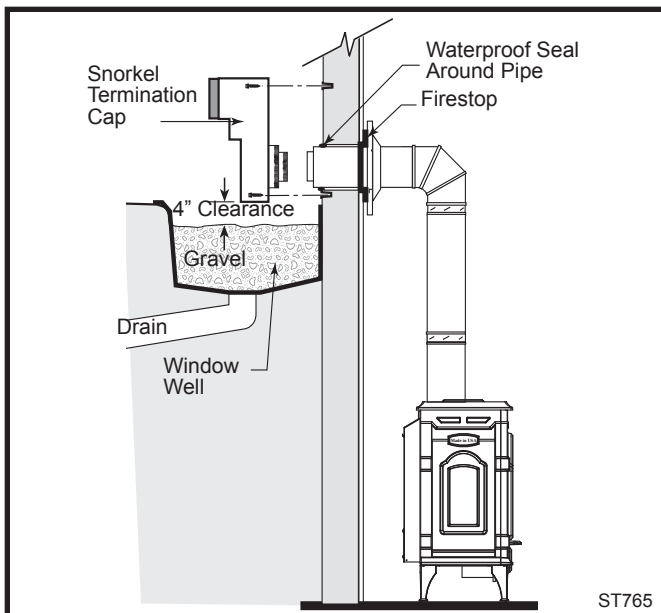

Fig. 28 Snorkel kit installation.
Install Snorkel Kit #7FSDVSKS when it is not possible to meet the required vent termination clearances of 12" (305 mm) above grade level. The snorkel kit will allow installation depth of down to 7" (178 mm) below grade level. The seven inches is measured from the center of the horizontal vent pipe as it penetrates the wall. **If the venting system is installed below grade, a window well must be installed with adequate and proper drainage. (Fig. 28)**
2. Remove soil to a depth of approximately 16" (406 mm) below the base of the snorkel. Install a window well (not supplied). Refill the hole with 12" (305 mm) of coarse gravel and maintain a clearance of at least 4" (102 mm) below the snorkel. (Fig. 28)